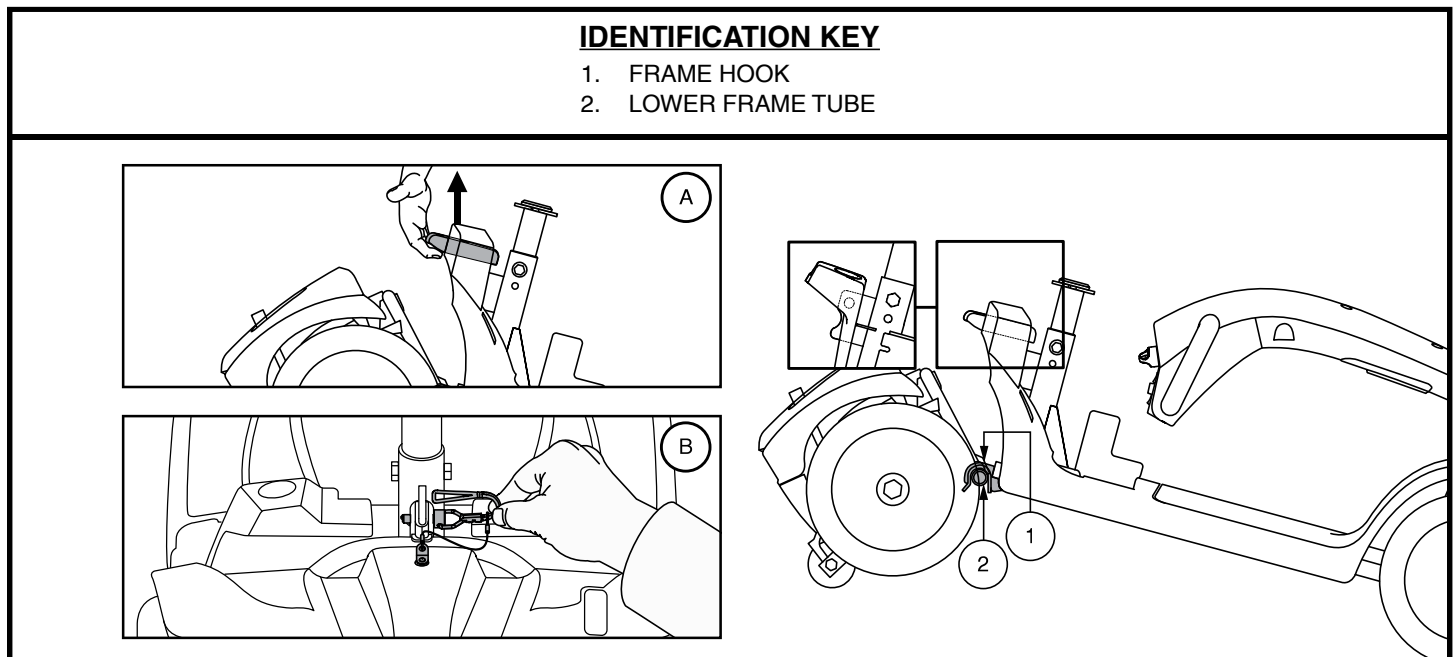

Figure 27. Frame Release Lever (Style A) and Frame Release Lockup Pin (Style B)
3. Remove the frame lockup pin (*Model 104 only*). See **figure 27**.
1. Position the front and rear sections of your scooter as shown in **figure 27**.
2. Use the frame release lever (or the seat post for model 104) to lift the front section as you align the frame hooks of the front section with the lower frame tube of the rear section. See **figure 27**.